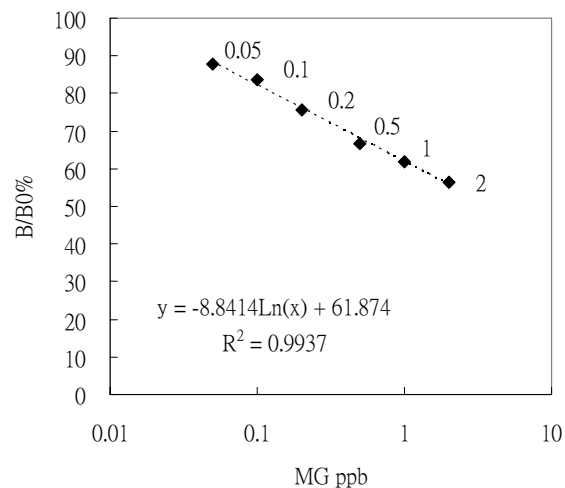

Figure 1. Standard curve (B/B0 % vs. concentration)
2. Prepare a calibration curve by plotting the B/B0 values versus their corresponding concentration on semi-log paper and drawing the best fit straight line. The graph should be similar to Fig. 1. Calculated the B/B0 values for each sample and interpolate the corresponding concentration from the calibration curve. The sample concentration should be corrected for dilution (5.5 folds).
( according to the Fig.1 ) .